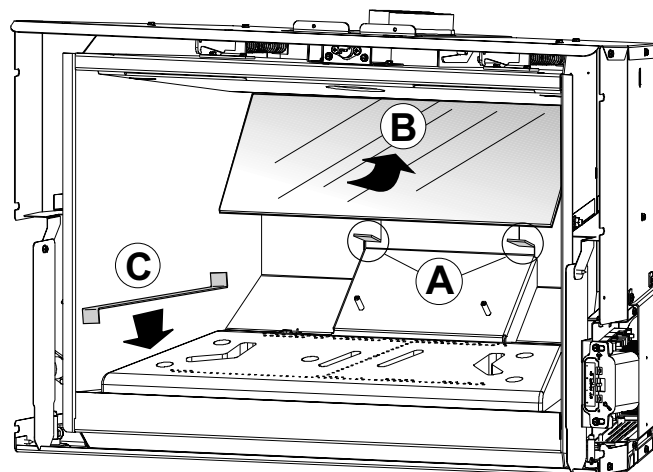

Fig. 7.13
2. Use pliers to bend the perforated tabs (A) to support the Rear Glass Panel as shown in fig. 7.13. Set the tabs at enough of an angle to keep the panel (B) lying back against the rear wall.